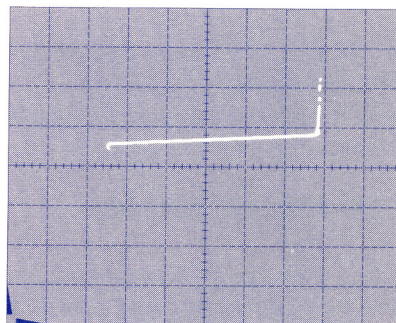

Figure 2-1. +Input bias current.
- 3) Measure Trace — Press UPPER and LOWER STORE buttons on 577 to obtain clear trace. If necessary, press UPPER and LOWER ERASE to clear screen. Check to see that vertical displacement is within specified value [2.5 divs, equal to $0.5 \mu\text{A}$] over op amp's specified input common-mode range. Refer to Figures 2-1 and 2-2. **3 2**